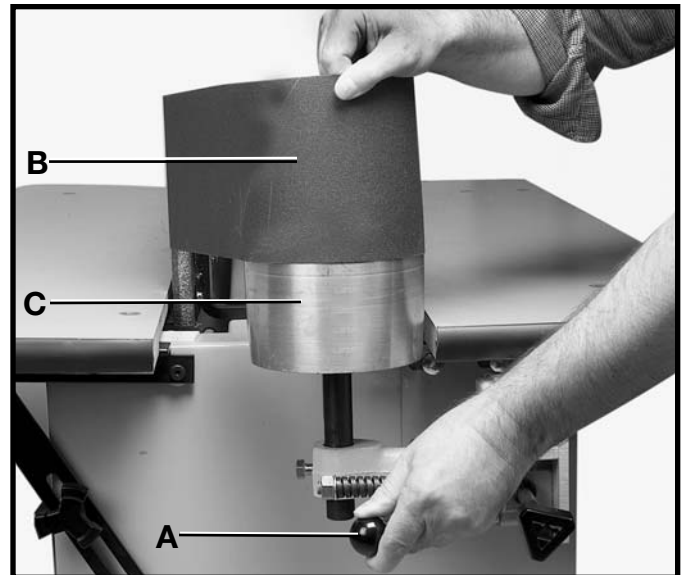

Fig. 39
3. Push in on belt tension lever (A) Fig. 39, to release belt tension, and remove sanding belt (B) as shown.
4. Push in on belt tension lever (A) Fig. 39, assemble new sanding belt (B) around pulley (C) and release tension lever (A).